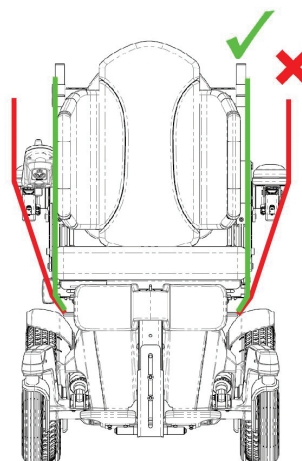

Figure 5.1 Routing the lifting straps
**Magic 360, Frontier V6 and V4:** The tie down rings can be used to lift your powerchair without the occupant. Tie down rings are highlighted in red in Figures 5.2. It's critical to ensure the lifting straps are run inboard of the armrests and clear of any other parts that may be excessively loaded when the powerchair is lifted. The ideal strap location is shown in Figure 5.1.